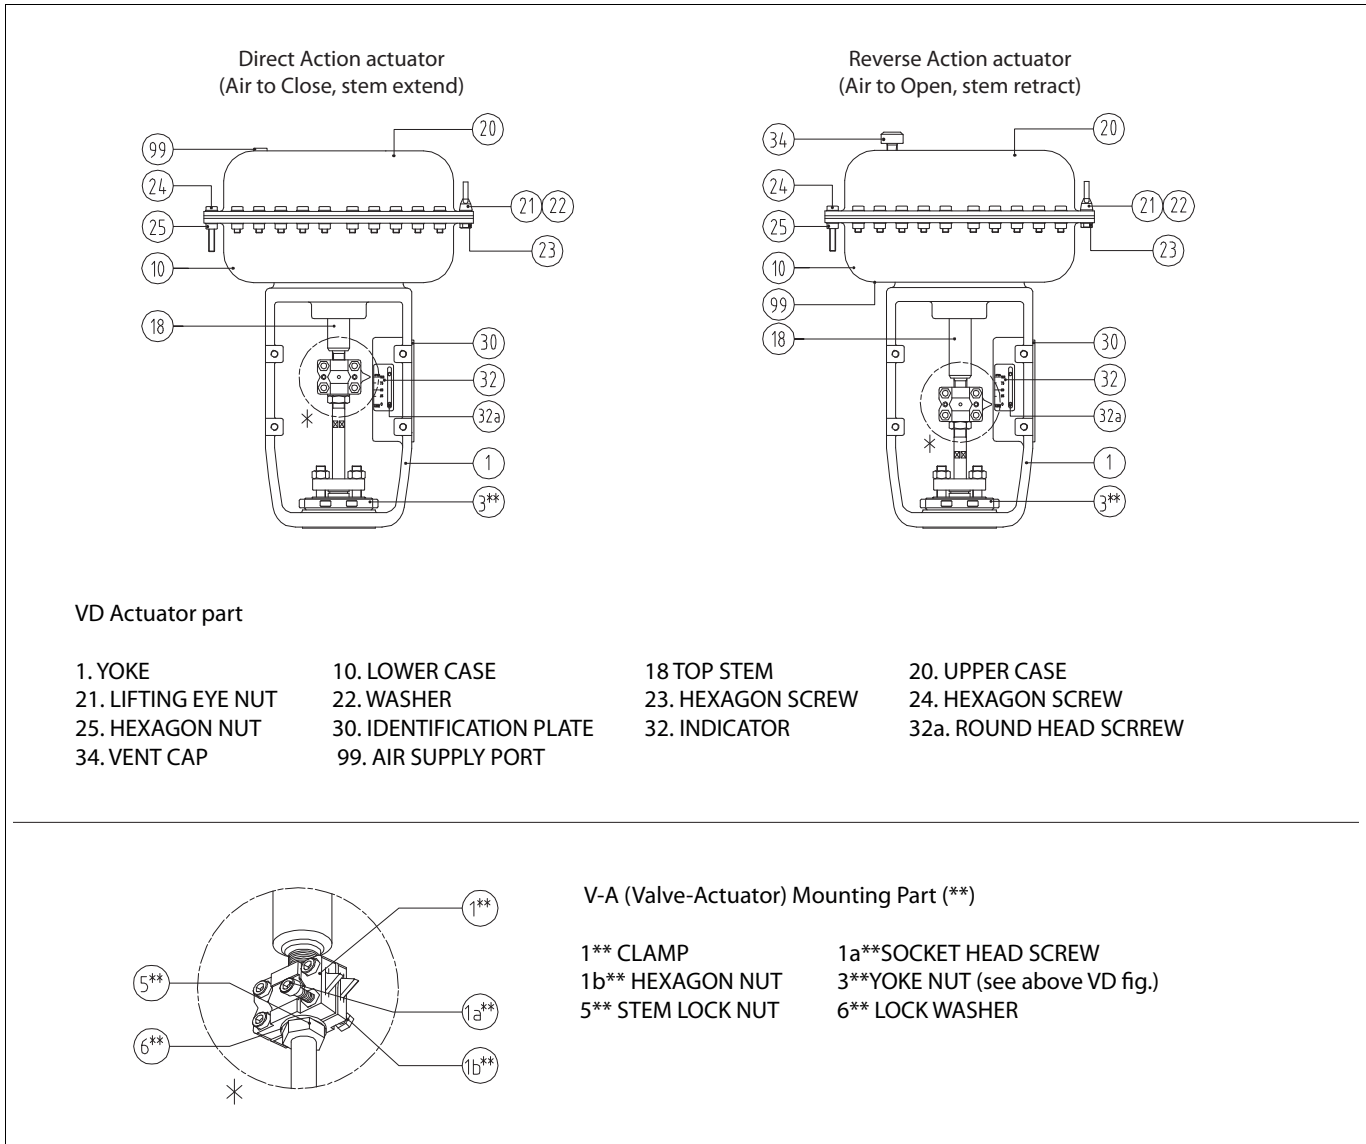

Fig. 15 VD Actuator
A. Actuator removal for Reverse <air to open, stem retract> actuator (Fig. 15)
B. Actuator replacement (mounting) for Reverse <air to open, stem retract> actuator (Fig. 15)
- Lift the top stem (18), using by specified air pressure.